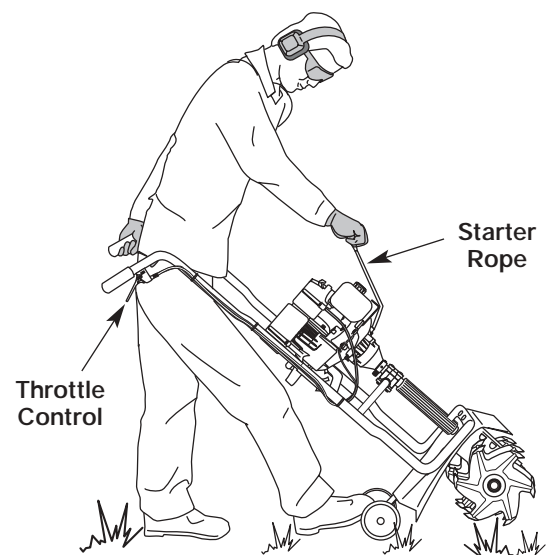

Fig. 8
**WARNING:** Avoid accidental starting. Make sure you are in the starting position when pulling the starter rope (Fig. 8). To avoid serious injury, the operator and unit must be in a stable position while starting.
5. Stand between the handlebars and support the unit by placing your right foot on the wheel bracket assembly and gripping the handlebar grip with your left hand (Fig. 8).
6. Stand in the starting position and **do not squeeze the throttle control** (Fig. 8). Pull the starter rope up to 10 times briskly.